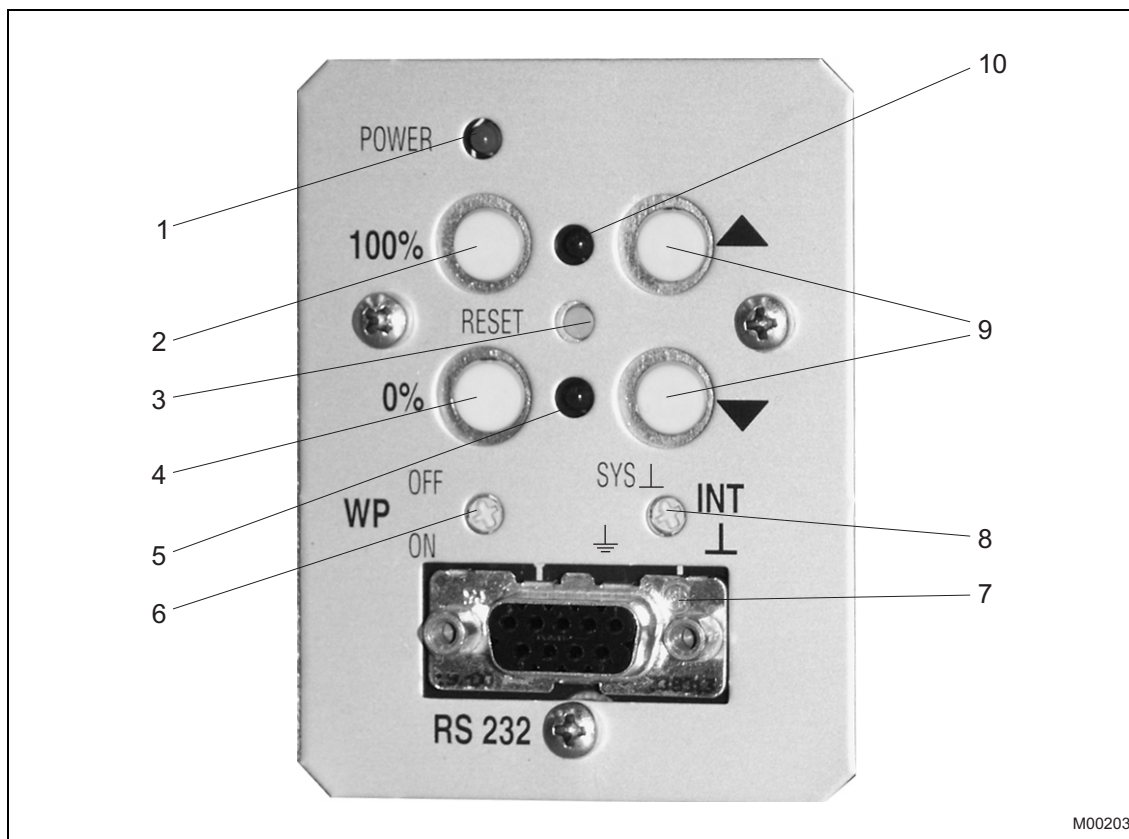

Fig. 1: Commissioning and service field
The LEDs (item 5 and item 10, Fig. 1) flash at different rates, depending on the function that has been initiated.
- Switch the electronic unit to the "Device setup" operating mode. Press and hold down both travel buttons (9) at the same time for approx. 5 s until both LEDs (items 5 and 10 in Fig. 1) flash in sync at a rate of 4 Hz.